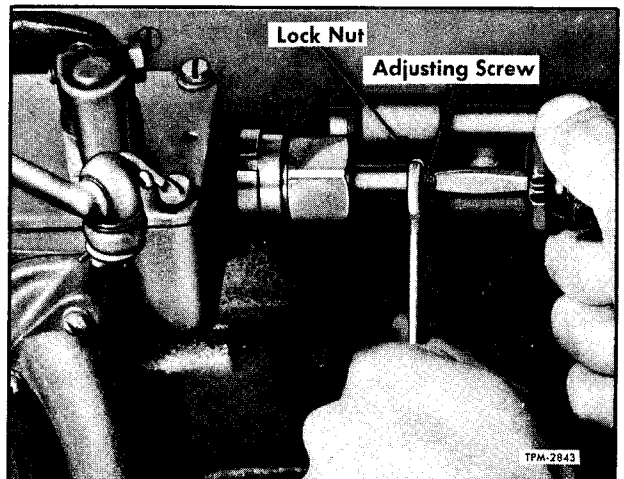

Figure 14—Idle Speed Adjustment (Typical)
n. On V8 engines, turn the idle speed adjusting screw in until it projects 3/16" from lock nut to permit starting engine (fig. 14).
2. If necessary to adjust, loosen lock nut and turn idle adjusting screw IN to increase or OUT to decrease (fig. 14). Lock adjusting screw with lock nut when idle speed is approximately 15 rpm below desired setting.